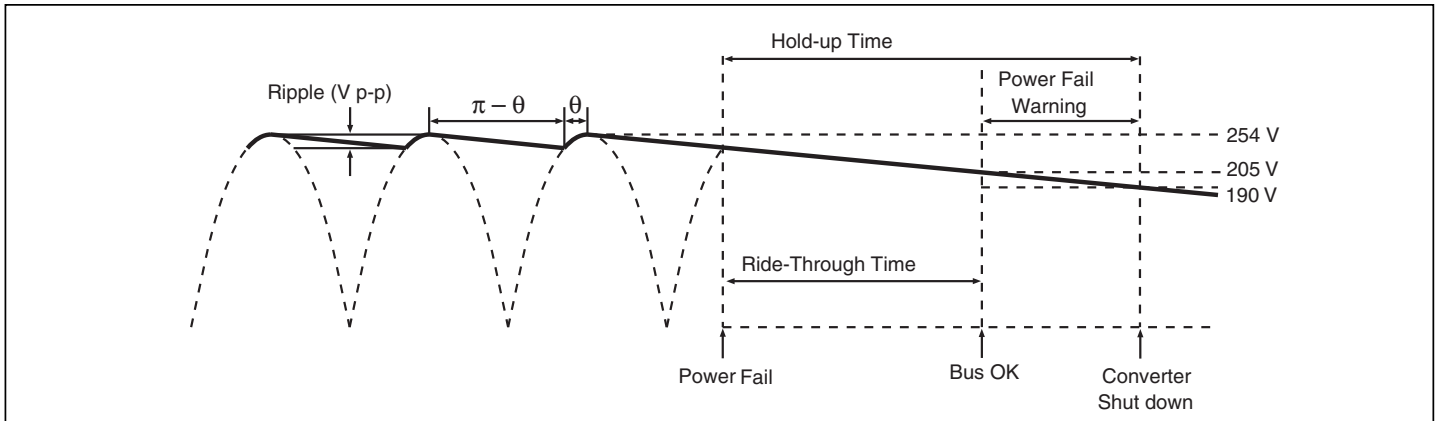

Figure 13 — Hold-up time
Hold-up Capacitors. Hold-up capacitor values should be determined according to output bus voltage ripple, power fail hold-up time, and ride-through time (see Fig. 13). Many applications require the power supply to maintain output regulation during a momentary power failure of specified duration, i.e., the converters must hold-up or ride-through such an event while maintaining undisturbed output voltage regulation. Similarly, many of these same systems require notification of an impending power failure in order to allow time to perform an orderly shut down.
The power fail warning time (Δt) is defined as the interval between B OK and converter shut down (EN) as illustrated in Fig. 13. The Bus-OK and Enable thresholds are 205 V and 190 V, respectively. A simplified relationship between power fail warning time, operating power, and bus capacitance is obtained by inserting these constants:
For example, a converter whose output is 15 V and nominal input is 300 V will provide approximately 56 dB ripple rejection, i.e., 10 V p-p of input ripple will produce 15 mV p-p of output ripple (see Fig. 17). Equation 3 is again used to determine the required capacitance. In this case, V_1 and V_2 are the instantaneous values of bus voltage at the peaks and valleys (see Fig. 13) of the ripple, respectively. The capacitors must hold-up the bus voltage for the time interval (Δt) between peaks of the rectified line as given by: